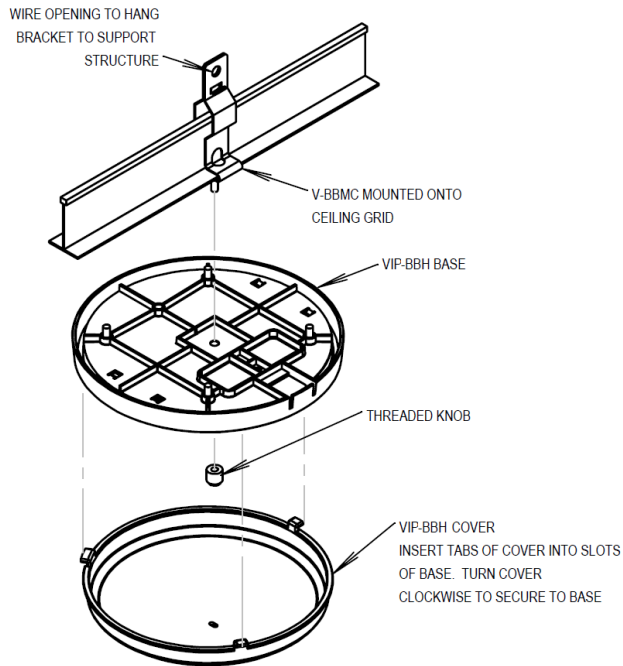

Figure 2
**Suspended Ceiling Grid with V-BBMC:** For suspended tile ceilings, optional mounting clips are available as part number V-BBMC-5 (5 pack). The clips facilitate mounting to the ceiling grid main beam or cross tee. Attach the V-BBMC clip to the ceiling grid following the instructions for the V-BBMC. The VIP-BBH base is attached to the clip using the large hole in the center of the base. Position the hole in the base on the machine screw extending from the bottom of the clip. Use the threaded knob provided with the V-BBMC to secure the base to the clip. Route the wiring through the ceiling tile and base. See Figure 2.